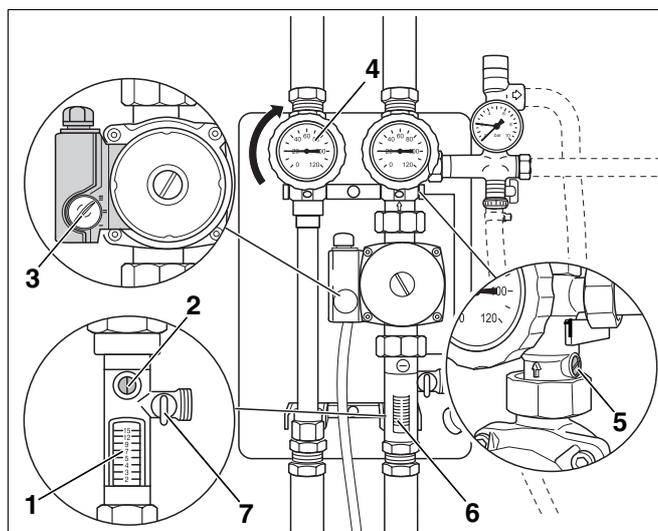

Fig. 18 Adjust the flow rate
- ▶ Turn the slot of the adjusting screw (Fig. 18, **Item 5**) in the return horizontally to close the non-flow valve.
- ▶ Turn the l.h. ball valve with integral thermometer in the flow (Fig. 18, **Item 4**) as far as it will go in the direction indicated by the arrow to close the non-flow valve.
- ▶ Turn the slot of the adjusting screw (Fig. 18, **Item 2**) in the return vertically to open the flow limiter (Fig. 18, **Item 6**).
- ▶ Check the flow rate through the flow limiter sight glass (Fig. 18, **Item 1**).
- ▶ To set the flow rate in advance, adjust the circulation pump step switch (Fig. 18, **Item 3**) so that the required flow rate is achieved or exceeded with the lowest possible step.
The flow limiter adjusting screw (Fig. 18, **Item 2**, page 22) is used to fine-tune the flow rate.
- ▶ Close the adjusting screw of the flow limiter (Fig. 18, **Item 2**, page 22) with a screw driver, until the upper edge of the float in the sight glass indicates the recommended flow rate.